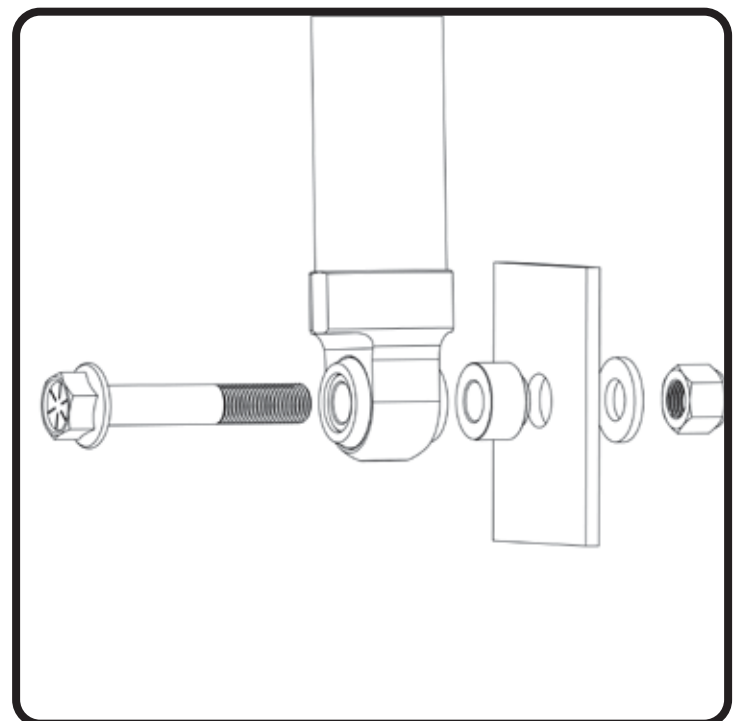

Figure 2
**4.** Attach the shock body to the OEM frame mounts (See Figure 2).